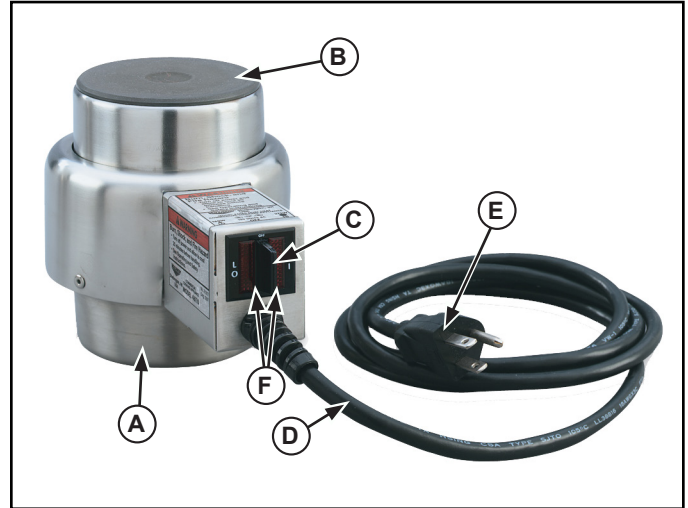

Figure 1. Universal Electric Chafer Heater Features and Controls (110V model shown).
2. Insert the base (A) of the heater into the stand, shelf or other equipment. See Figure 1.